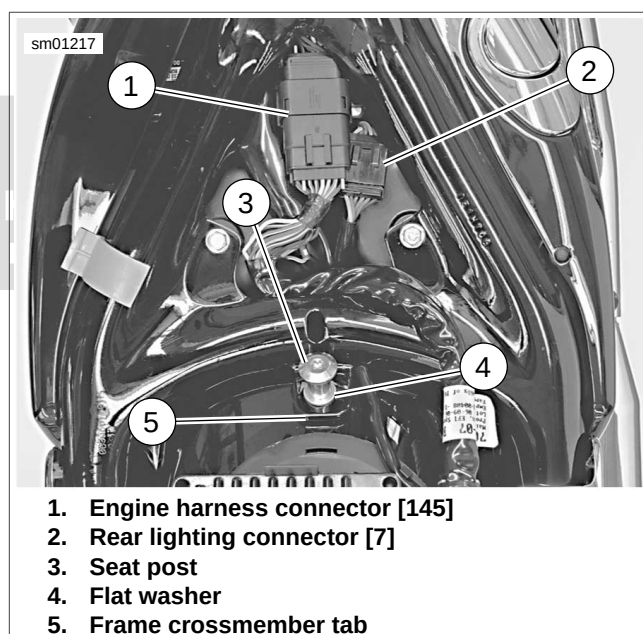

Figure 2-235. Rear Lighting Connector Location
5. See Figure 2-235. Unplug rear lighting connector assembly [7] (2). Depress external latch and use a rocking motion to separate connector halves.